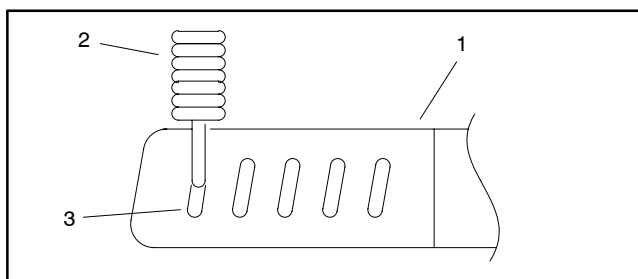

Figure 2
4. Make sure governor spring is assembled to bellcrank on throttle bracket and outer most slot in engine governor lever (Fig. 2).